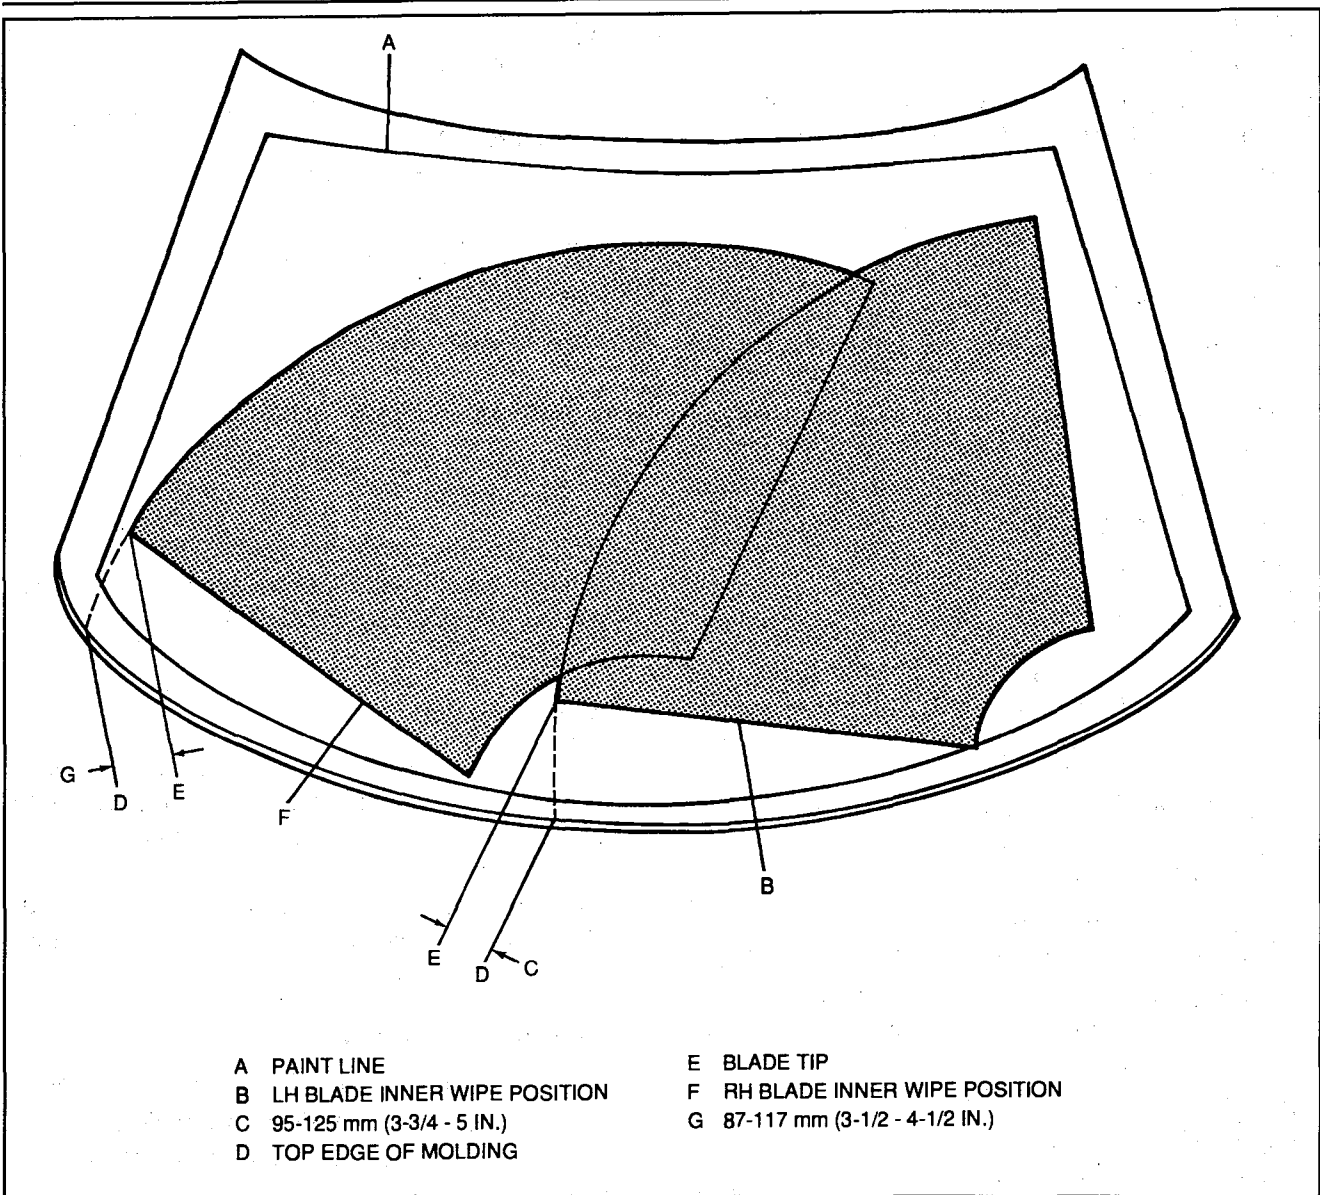

Figure 11 — Wipe Pattern and Inner Wipe Positions
1. Operate wipers at lowest DELAY setting, then shut off wipers at inner wipe (end of sweep) position. At tip of blade assembly, mark windshield to aid at installation. See Figure 11 for wipe pattern and inner wipe positions.
- If wipers could not be stopped at inner wipe position for wiper arm removal, position blade tip(s) according to dimensions given in Figure 11.
- Run wipers and check for proper wipe pattern (Figure 11).
Figures 11 and 16
A correctly operating windshield wiper/washer system has a spray pattern that cleans 75% of the wipe pattern (Figure 11) within ten wiper cycles.